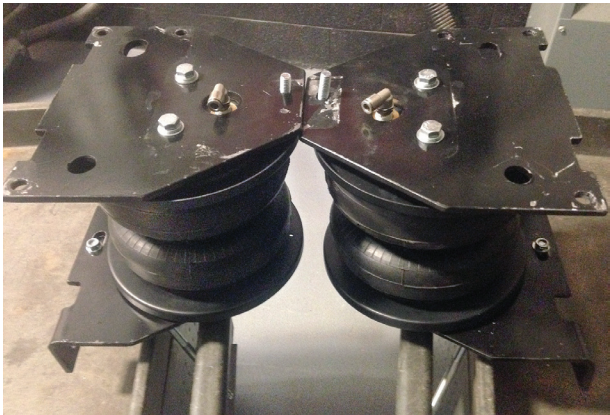

fig. D.15
8. Figure D.15 shows the driver's and passenger's side assemblies.